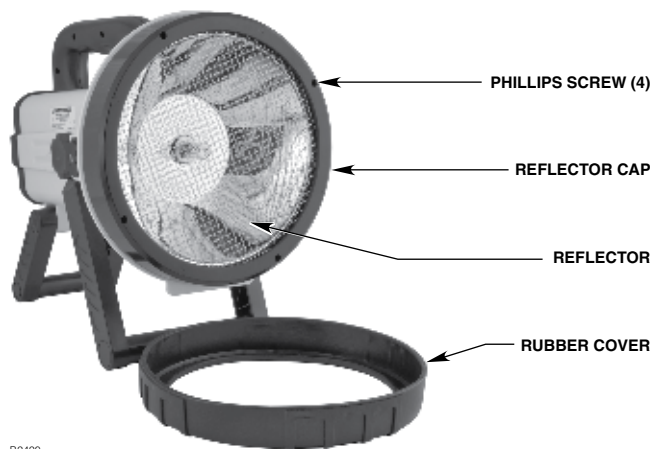

Figure 6—Front of Test Lamp with Rubber Cover Removed
2. Pull the rubber cover off the front of the test lamp. See Figure 6.